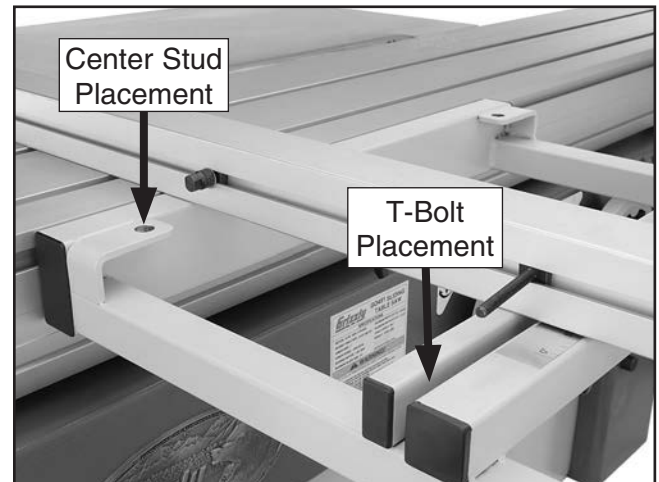

Figure 56. Crosscut fence placement.
51. Position the center stud and the T-bolt over the placement holes shown in **Figure 56**, then tighten the center stud.